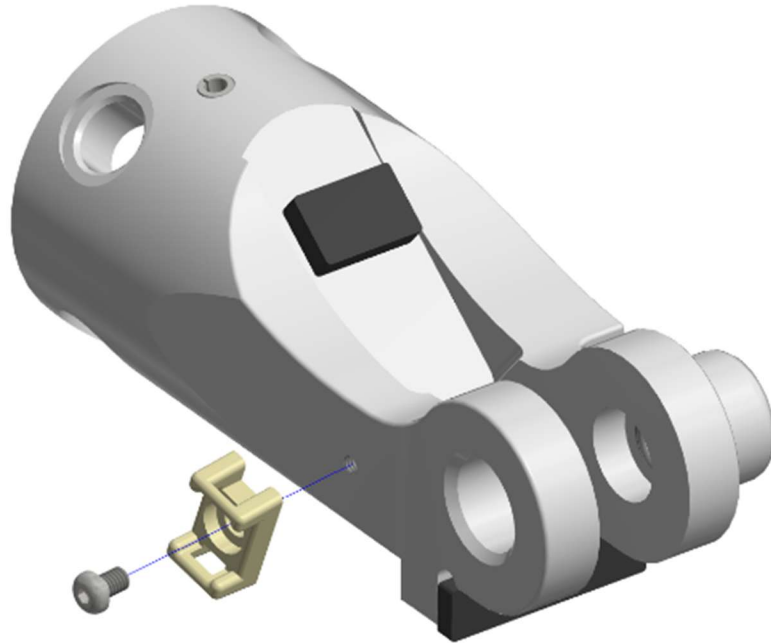

Figure 11-27. Attach the Cable Tie Mount (6002036)
- 11.3.4 Attach the Cable Tie Mount (6002036) to the Proximal Lower Arm Tube (474-6501) using one M2.5 X 0.45 X 4 LG. BHCS (Figure 11-27).